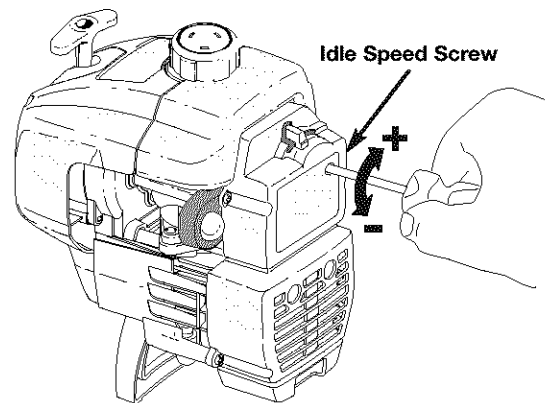

Fig. 29
The idle speed of the engine is adjustable through the Air filter/Muffler cover (Fig. 29).
2. Release the throttle trigger and let the engine idle. If the engine stops, insert a small phillips or flat blade screwdriver into the hole in the air filter/muffler cover (Fig. 29). Turn the idle speed screw in, clockwise, 1/8 of a turn at a time (as needed) until the engine idles smoothly.